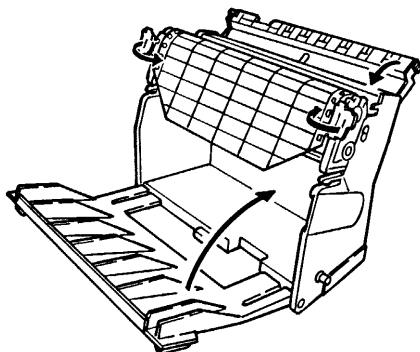

Figure 5.5
- 9 Place the front transparent chart guides back into position (see figure 5.5).